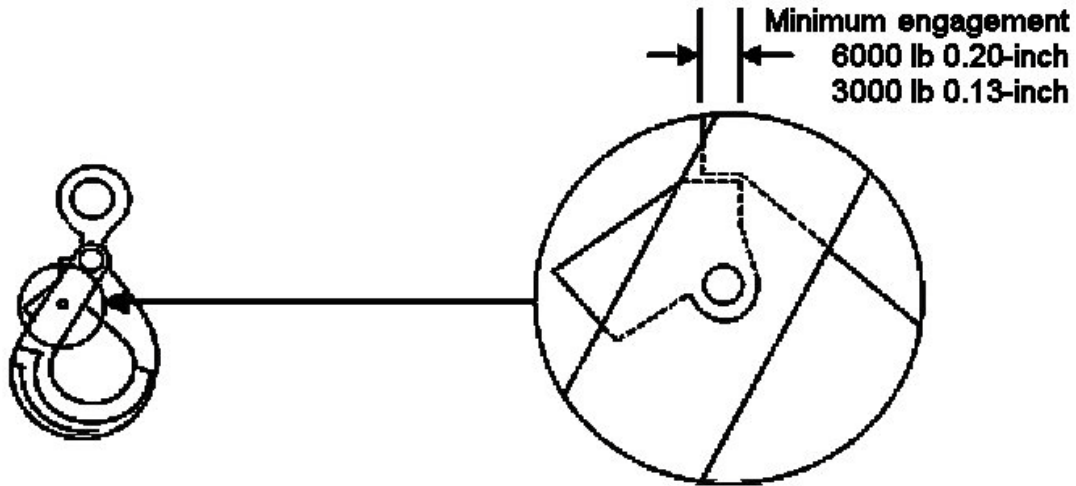

Figure 11. Examine Gate Lock Latch for rounding.
- a. Check hook for damage such as cracks, nicks, wear, gouges, and deformation (see figure 11.)
- Examine gate lock for rounded edge (see figure 11.)
- Ensure lock latch pin is secure and flush with the latch (see figure 11.)